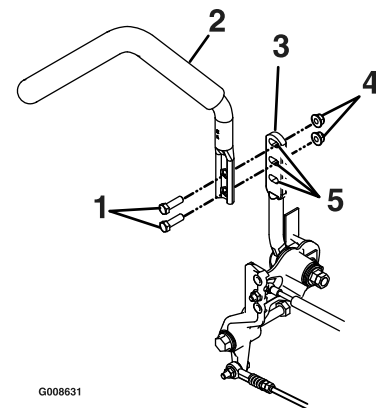

Figure 60
1. Remove the two bolts holding the control lever to the control arm shaft (Figure 60).
2. Loosen the lower bolt just enough to pivot the control lever fore or aft Figure 60. Tighten both bolts to secure the control in the new position.